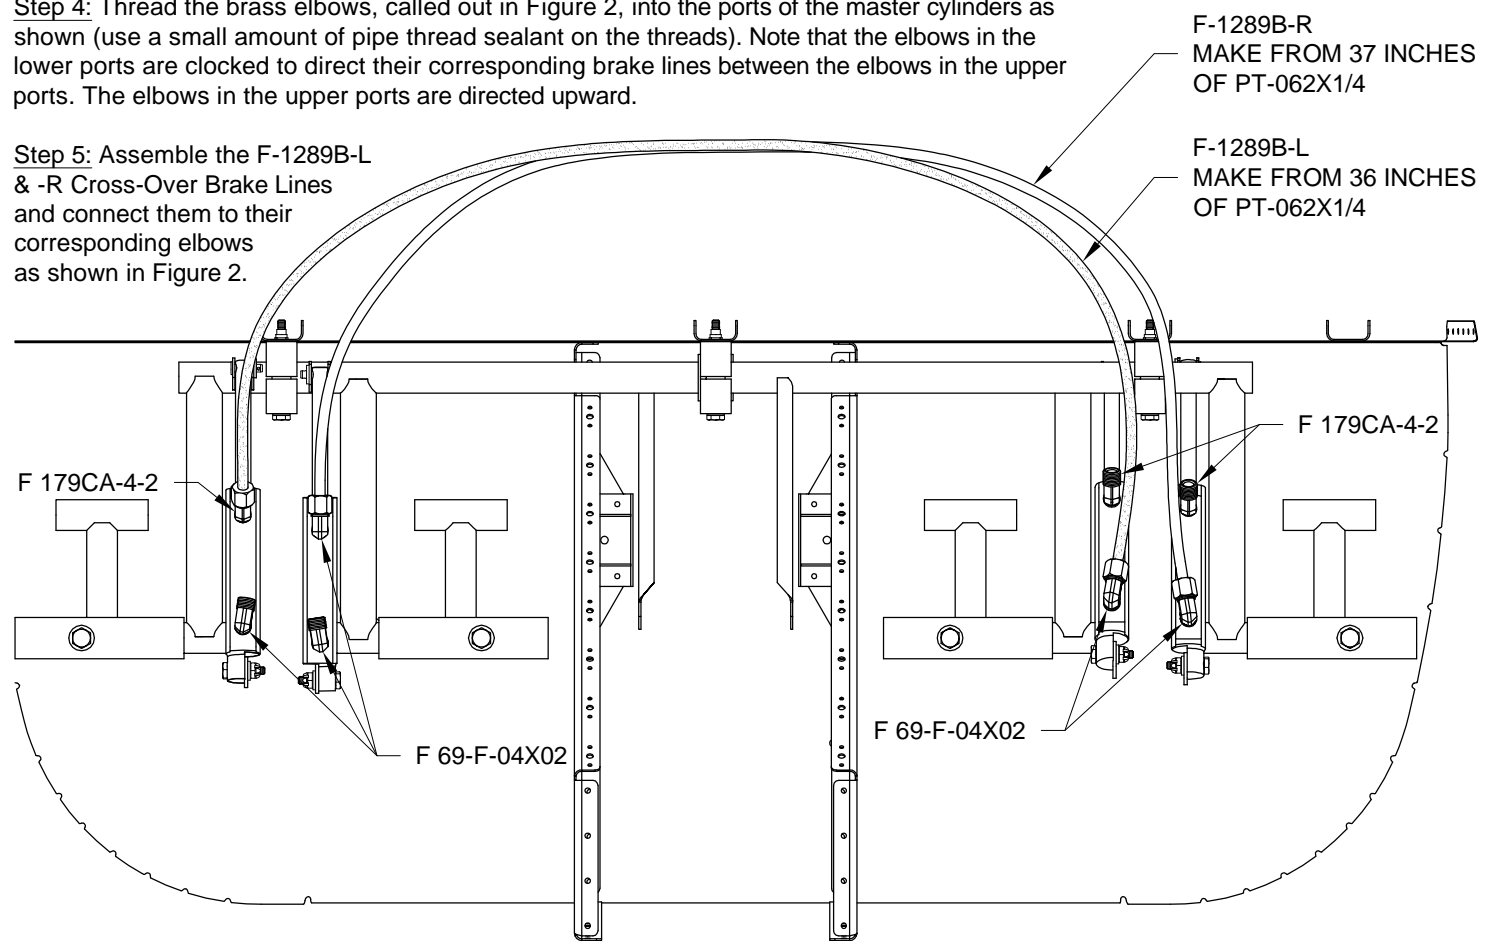

FIGURE 2: CROSS-OVER BRAKE LINES
Step 4: Thread the brass elbows, called out in Figure 2, into the ports of the master cylinders as shown (use a small amount of pipe thread sealant on the threads). Note that the elbows in the lower ports are clocked to direct their corresponding brake lines between the elbows in the upper ports. The elbows in the upper ports are directed upward.
Step 5: Assemble the F-1289B-L & -R Cross-Over Brake Lines and connect them to their corresponding elbows as shown in Figure 2.